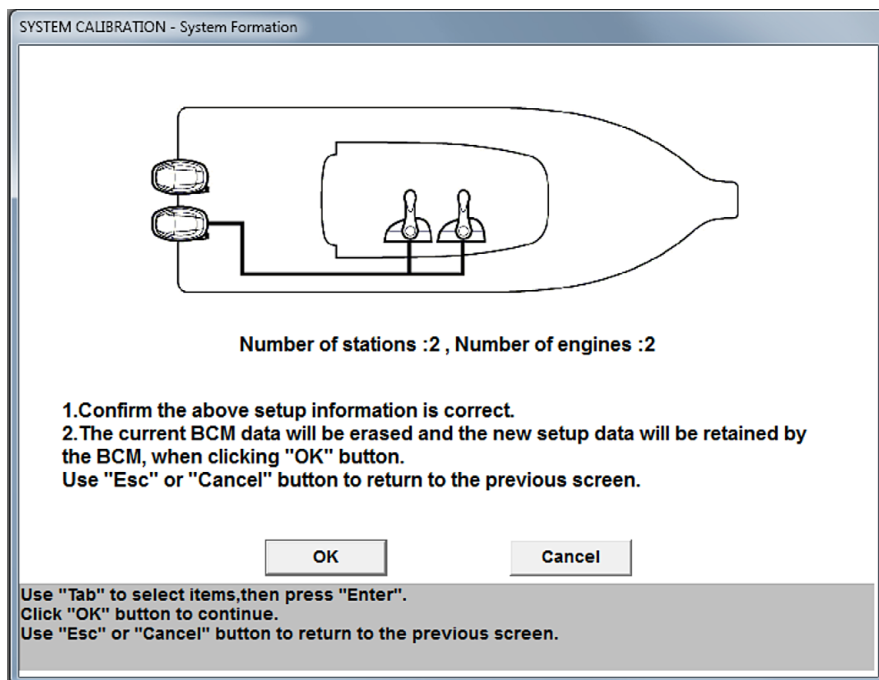

Figure 6-11. System calibration graphical confirmation window.
3. A confirmation window similar to Figure 6-11 will be shown. Ensure the information is correct, then click **OK**. Click **Cancel** to return to the previous screen if you need to make a change.